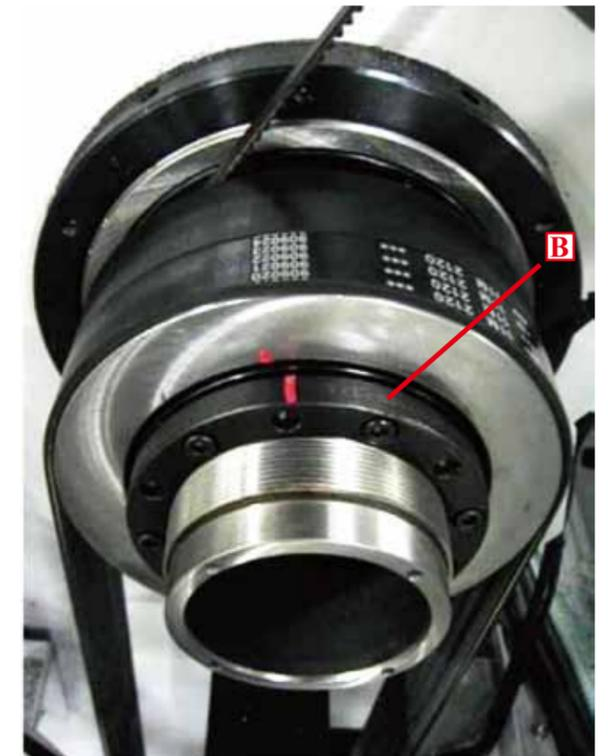

Fig. 2
5.2 If the noise still remained, please loose the spindle pulley nut showed as B on Fig. 2 and tight it again. This pulley nut is only for fastening the pulley, no function of bearing preload, so just tight it with copper stick and hammer. After the pulley nut is tighten, run the spindle again and noise should be erased.